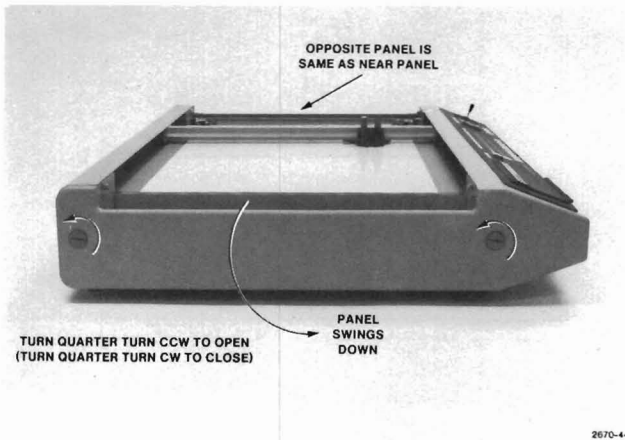

Figure C-1. Side Panel Quarter-Turn Latches.
2. There are two large quarter-turn latches on each end panel. Turn these latches CCW on one end panel and lower the panel on its hinge. Then, repeat for the other panel (see Figure C-1).